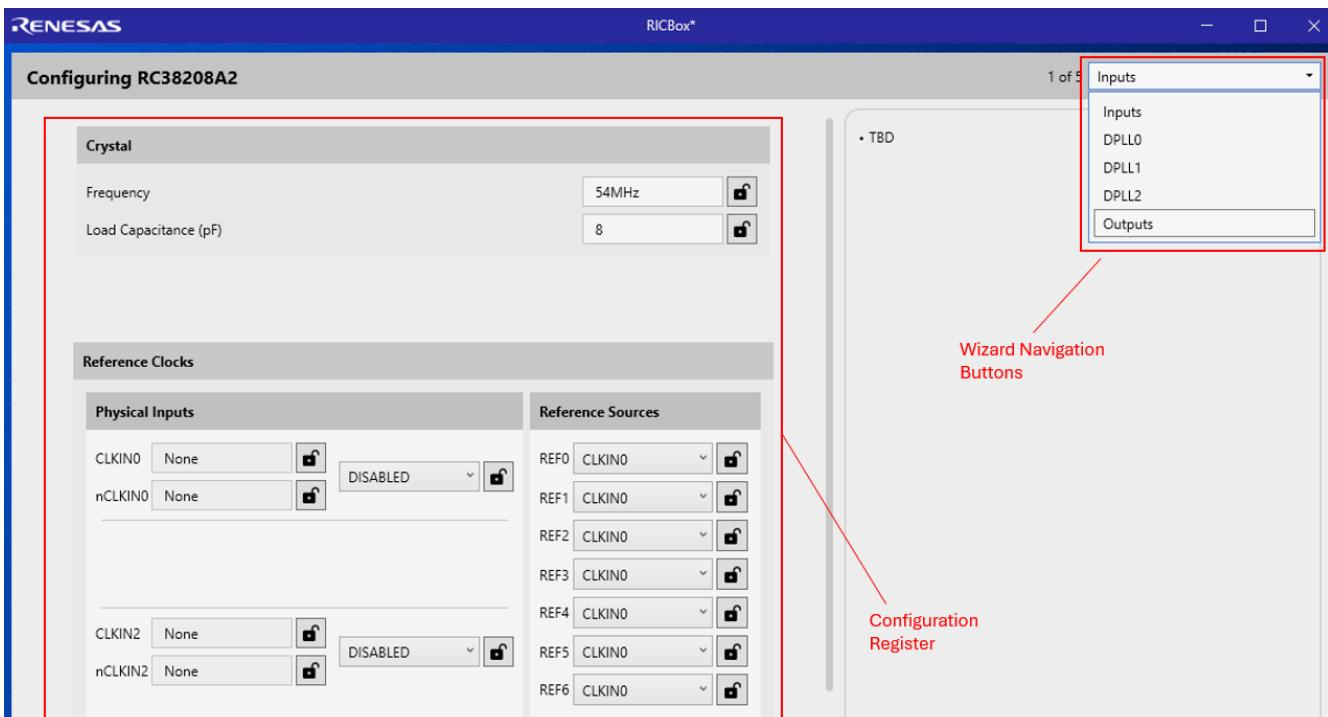

Figure 25. RICBox Wizard Navigation
- Follow the on-screen wizard (see Figure 25) to configure the device for general evaluation starting from "Inputs", then "DPLL", and finally "Outputs".